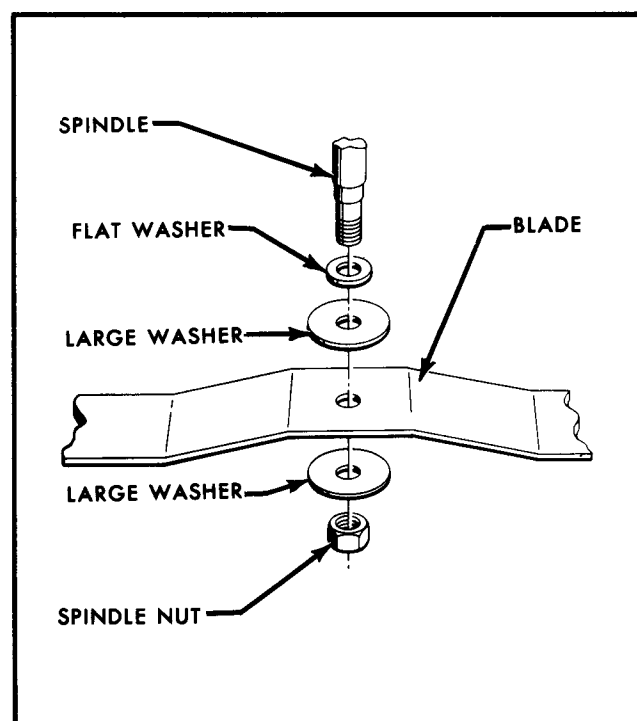

Figure 10. Assembly of Blades
2. Remove the blades by taking off the right hand threaded spindle nuts. Note the positions of the large and small flat washers as these must be replaced in the same positions when the blade is reinstalled. (See figure 10.)